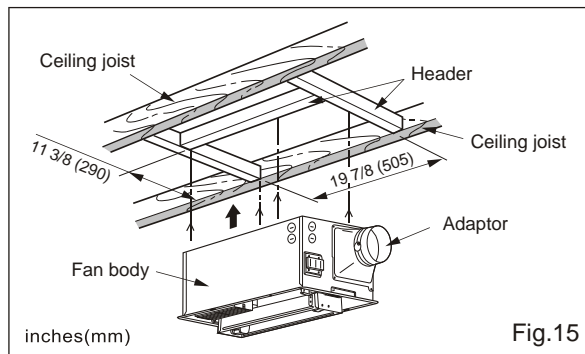
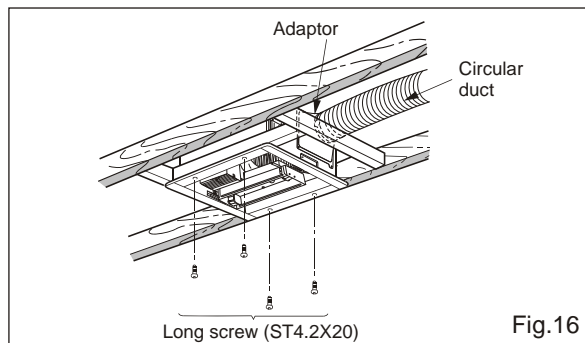

Fig.15
Fig.16
- Install the fan body to the header (thickness:1.5 inch or more) with long screws. Reinforce the installation hardware as needed to prevent the fan body from dropping. (Fig.15, Fig.16)